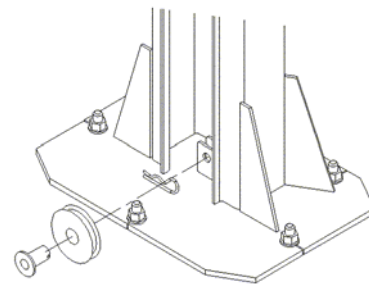

Figure 14: Pulley Assembly
7. At the bottom of the column, remove the hitch pin, pulley pin and pulley from the baseplate (**Figure 14**). Route equalizing cable around pulley and